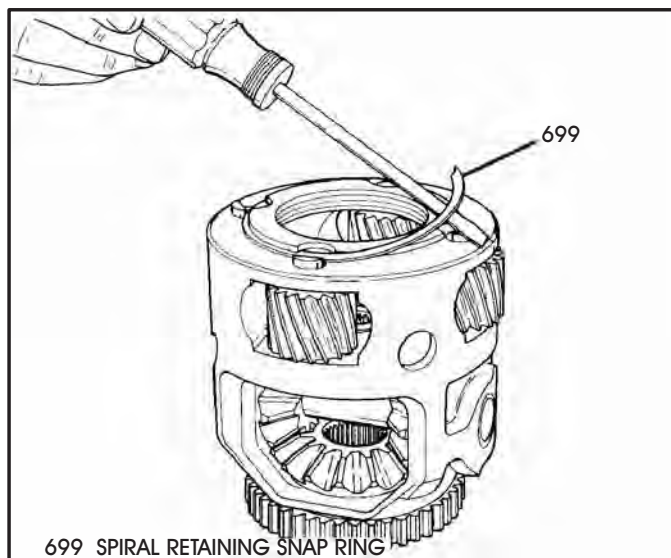

Figure 78
2. Remove the final drive carrier spiral snap ring as shown in Figure 78, using small screwdriver.